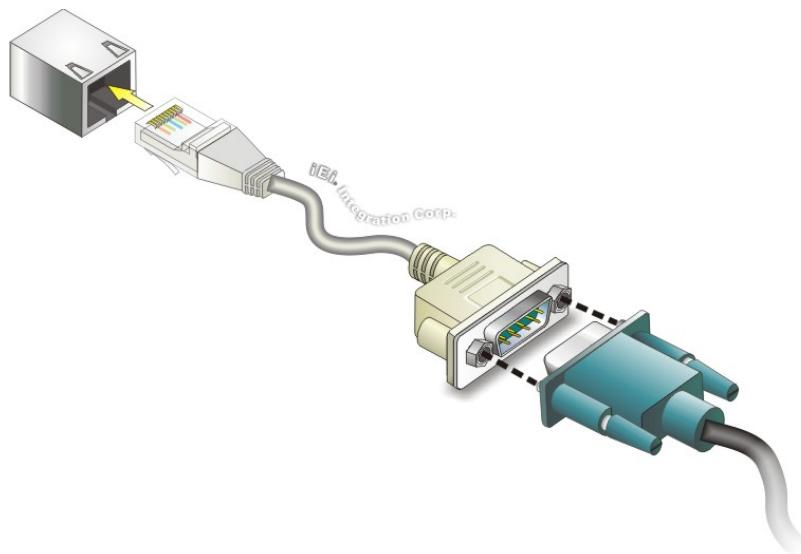

Figure 3-9: Serial Device Connector
Step 2: Insert the RJ-45 to D-sub 9 cable. See **Figure 3-9**.